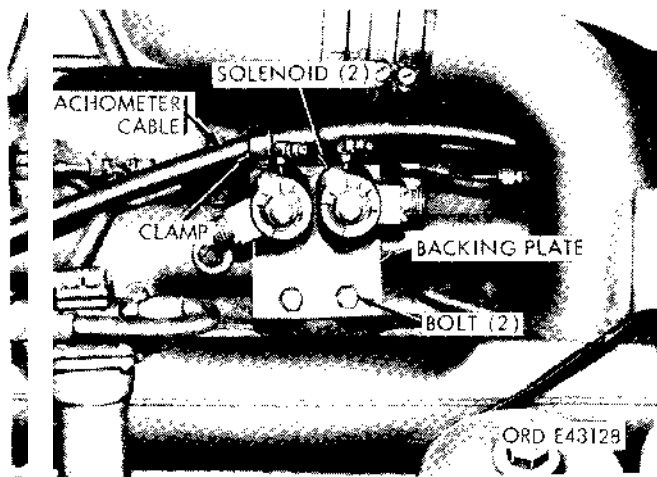

Figure 2-113. Removing two-valve solenoid assembly—diesel models.
(3) Remove the screw securing the tachometer cable clamp to the solenoid backing plate (fig. 2-113). Separate the cable from the solenoid assembly.
(4) Unscrew the two bolts mounting the solenoid assembly to the engine, and remove the assembly (fig. 2-113).
(2) Mount the solenoid assembly to the engine with two bolts (fig. 2-113).
(3) Use the fourth screw to mount the tachometer cable and clamp assembly to the backing plate (fig. 2-113).